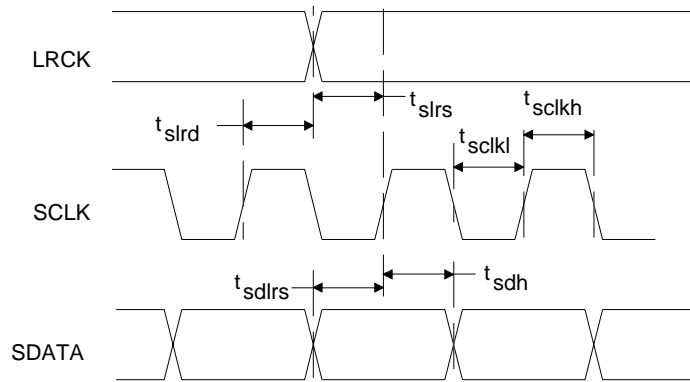

Figure 1. External Serial Mode Input Timing
8. Valid with the recommended capacitor values on FILT+ and VQ as shown in Figure 1. Increasing the capacitance will also increase the PSRR.